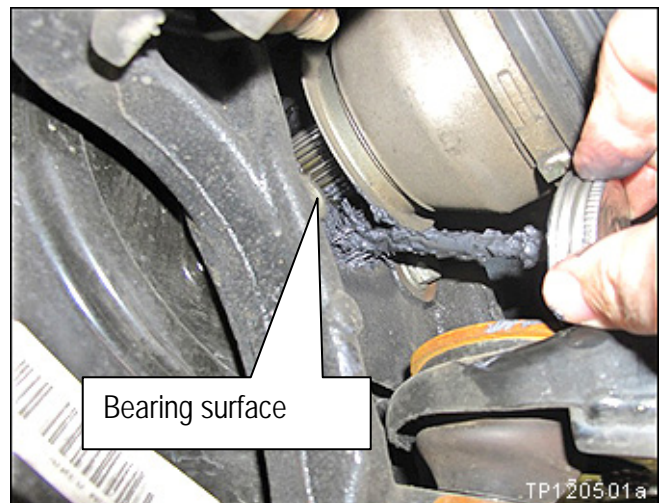

Figure 2
3. Apply a moderate coat of Molykote (P/N 44003-7S000) to the entire (front or rear) wheel hub bearing surface (see Figure 2).